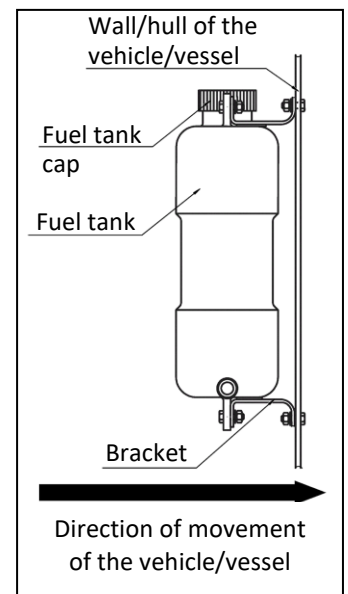

Fig. 3 Installation of the fuel tank
Consider convenience of fuelling, when installing the fuel tank (Fig.3). Install the fuel tank in such a way that the amount of fuel and its potential leaks from the inlet, fuel suction nozzle or connections can be visually controlled.
Fuel tank must be installed with its wide side perpendicular to the direction of the movement of the vessel (see Fig. 3).
4. Mount fuel tank or fuel pick up tube (included in the heater installation kit) according Fig.2 or Fig.3